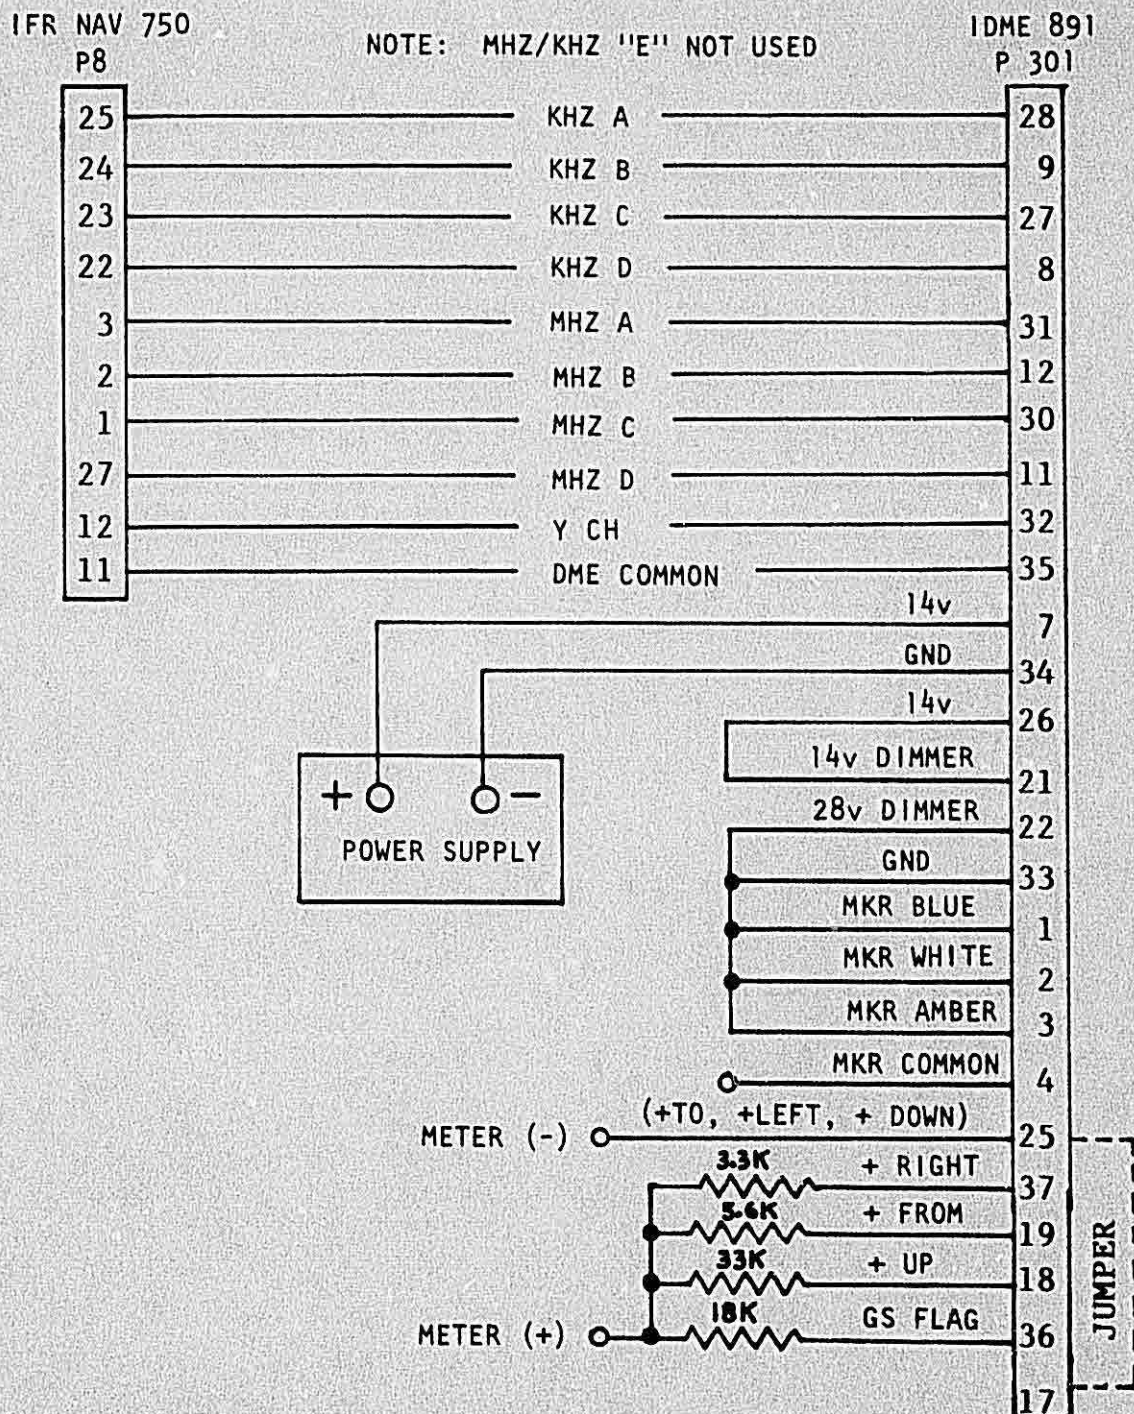

FIGURE 2-1 BENCH TEST HARNESS
The cable shown in Figure 2-1 will permit bench testing of the IDME-891 without its companion NAV receiver. Alternatively, the cable to be installed in the aircraft may be used providing, in addition, a checkout of avionics, cabling and calibration of the VOR-ILS indicator to the NAV converters.
Shown in Figure 2-1 is an arrangement whereby the popular IFR NAV 750 VOR-ILS generator is used to remote channel the IDME-891. The IFR NAV 750 offers 2-out-of-5 remote channeling from its rear panel accessory connector J8. Remote channeling is controlled by the front panel frequency select switches.
Table 2.1 lists the IDME-891 channeling code. With the exception of the resistors shown in Figure 2-1, which must be supplied by the installing agency, a bench test cable may be fabricated by ordering from Narco the following parts:
The following bench test is conducted with a harness constructed as shown in Figure 2-1. However, if the aircraft's interconnect cable between the IDME-891 and its companion NAV converter(s) is used for the bench test, omit the VOR-ILS Indicator Test (Step B) and instead, calibrate the indicator as in Step D.
2. Connect system for bench test as shown in Figure 2-1.